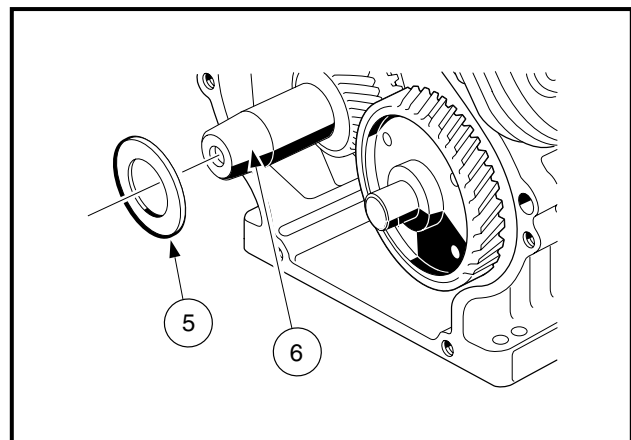

Figure 13-100 Install Shim On Crankshaft
5. Install the shim (5) on the crankshaft (6) (Figure 13-100, Page 13-45).